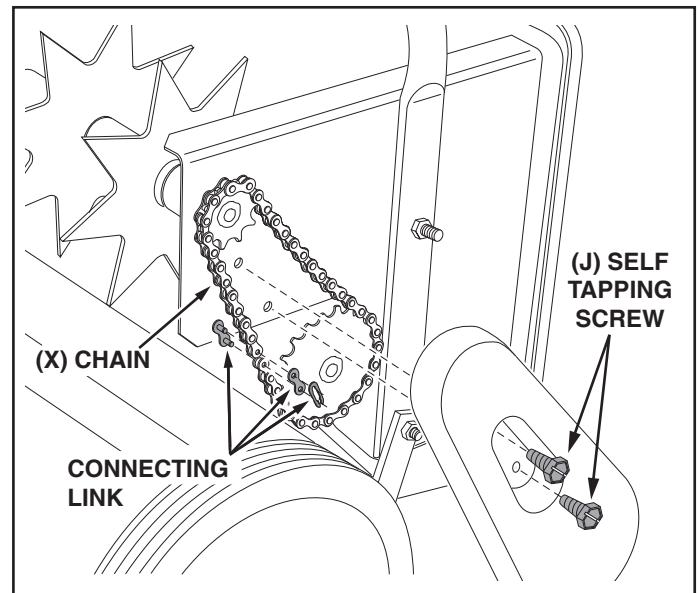

FIGURE 23
43. Remove the connecting link from the chain and then assemble the chain onto the two sprockets on the left side of the hopper. Fasten the ends of the chain together using the connecting link. See figure 23.
44. Place the chain cover over the chain and fasten it to the hopper end plate using two self tapping screws. See figure 23.